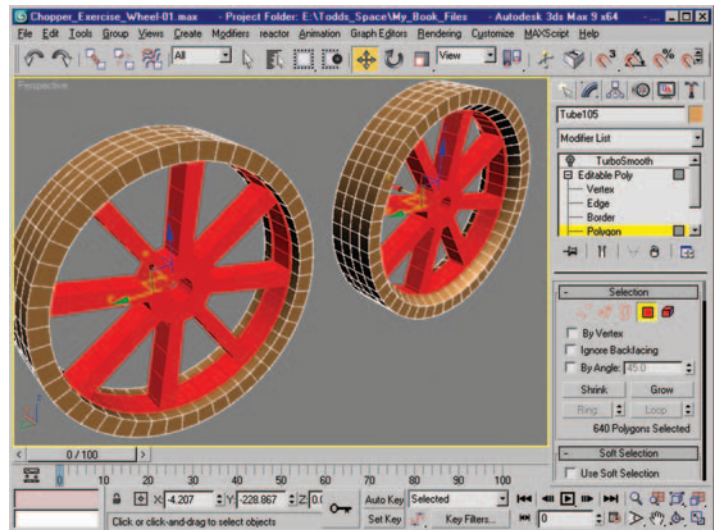

Figure 8.106 Polygon selection before and after scaling.
17. At the Polygon subobject level, select the polygons seen in Figure 8.106 (left) and scale them to 93% using the Scale Transform Type-In. Figure 8.106 (right) shows the resulting mesh after scaling.